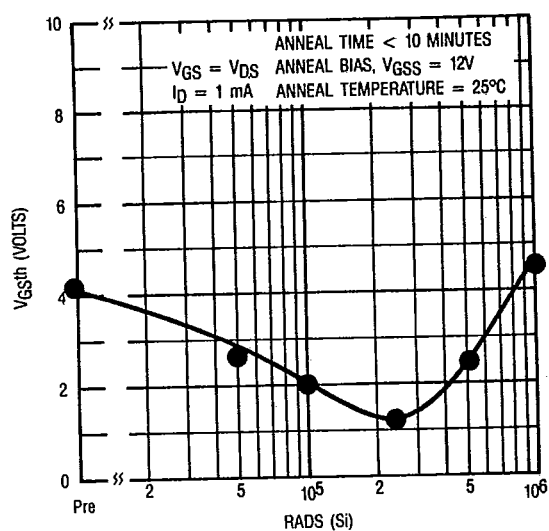

Fig. 1 — Typical Response of Gate Threshold Voltage Vs. Total Dose Exposure®
Low dose rate testing is performed following MIL-STD-750C, test method 1019. The lot is evaluated with two different test circuits. Device performance is presented in table 1. The values in table 1 will be met for either of the two low dose rate test circuits that are used. Refer to notes ⑥ and ⑦. In addition, Rad Hard HEXFETs have been characterized for their post radiation response. Typical curves showing radiation response as well as post radiation response appear in figures 1 through 8.